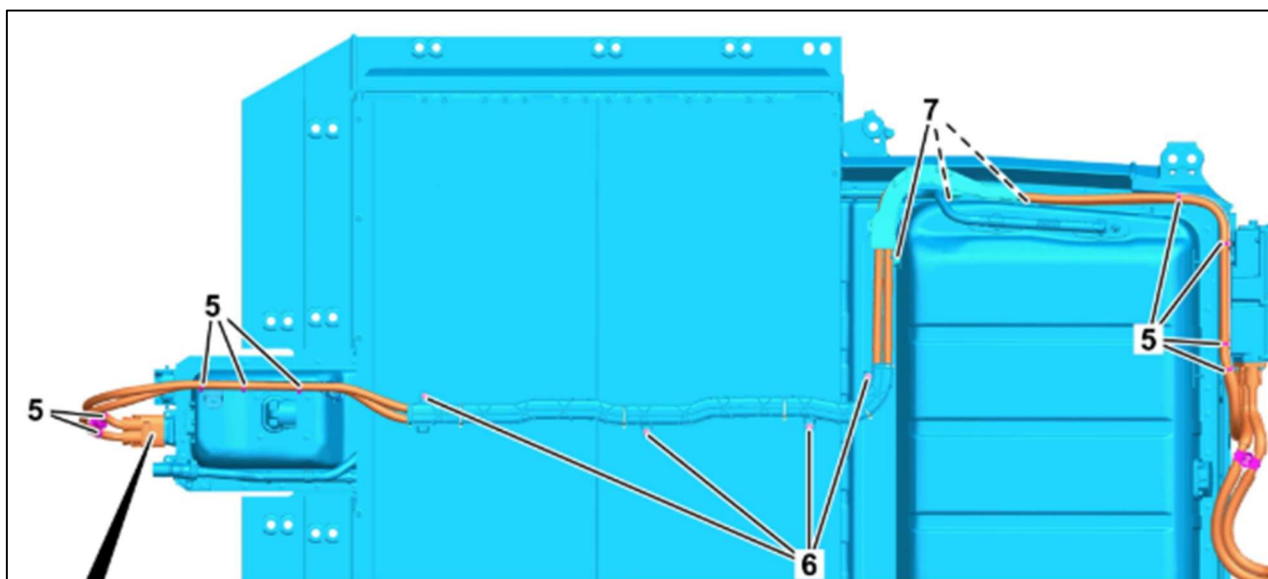

Figure 8
- Remove nuts (**Figure 8, 7**) and screws (**Figure 8, 6**).